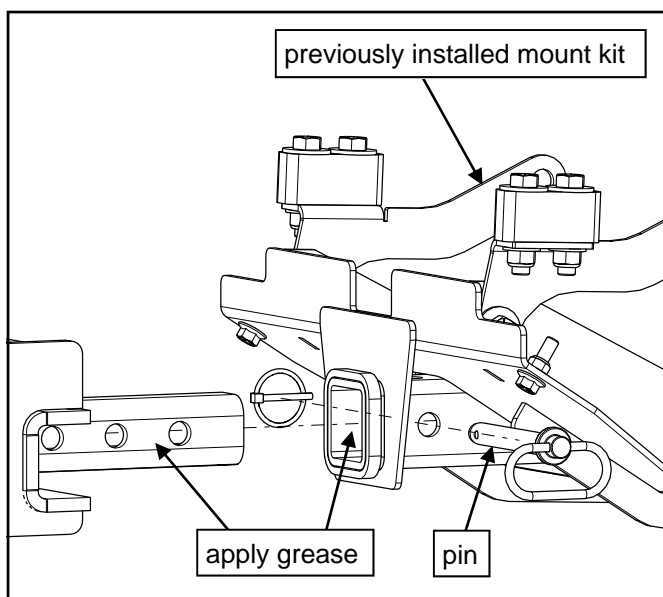

Fig. 5.1 (Lift Frame and Receiver Pin)
5.1 Apply grease to the stem of the lift frame and the inside of the receiver. See Fig 5.1. Move the lift frame to the receiver of your vehicle so that the stem on the lift frame is lined up with the female end tube of the receiver hitch.
5.3 Install pin thru hole on receiver and lift frame stem and secure. See Fig. 5.1.